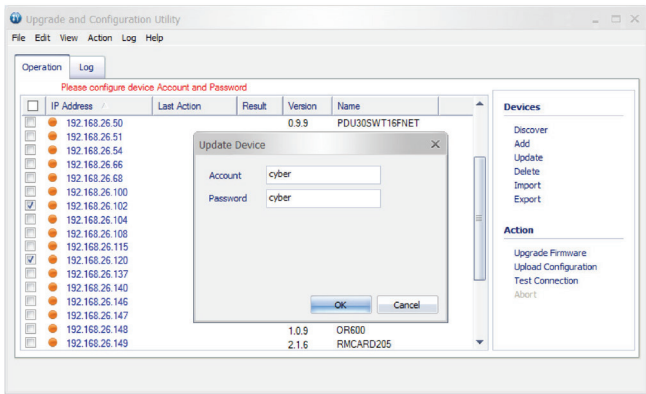

Figure 3
5. Make sure **Account** and **Password** are valid on selected devices (Figure 3).